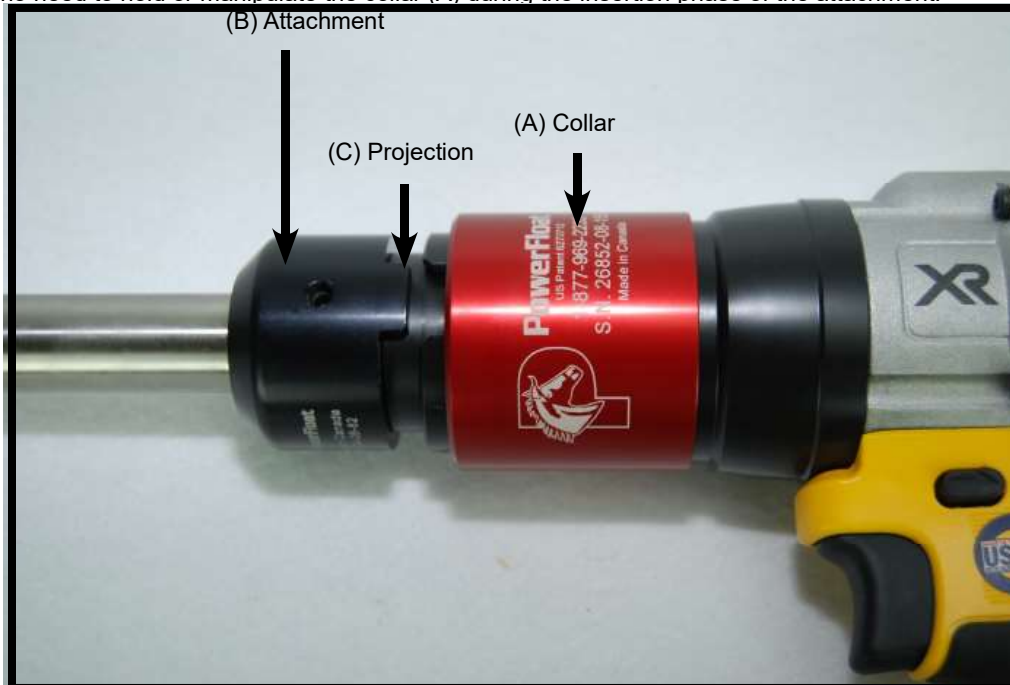

Fig. 3
Fig. 3 The collar (A) (red) is spring loaded and when the attachment (B) is inserted into the collar system it will automatically self lock. The attachment (B) with projection (C) can be positioned in the up or down position. There is no need to hold or manipulate the collar (A) during the insertion phase of the attachment.